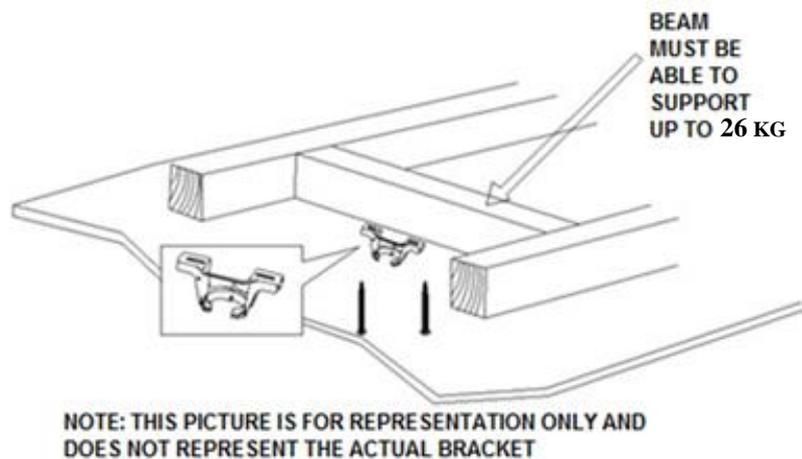

Fig. 2
- Install the hanging bracket to the ceiling joist or structure that is capable of carrying a load of at least 26kg, with two long screws provided. Ensure at least 30mm of the screw is threaded into the support. (Fig. 2)